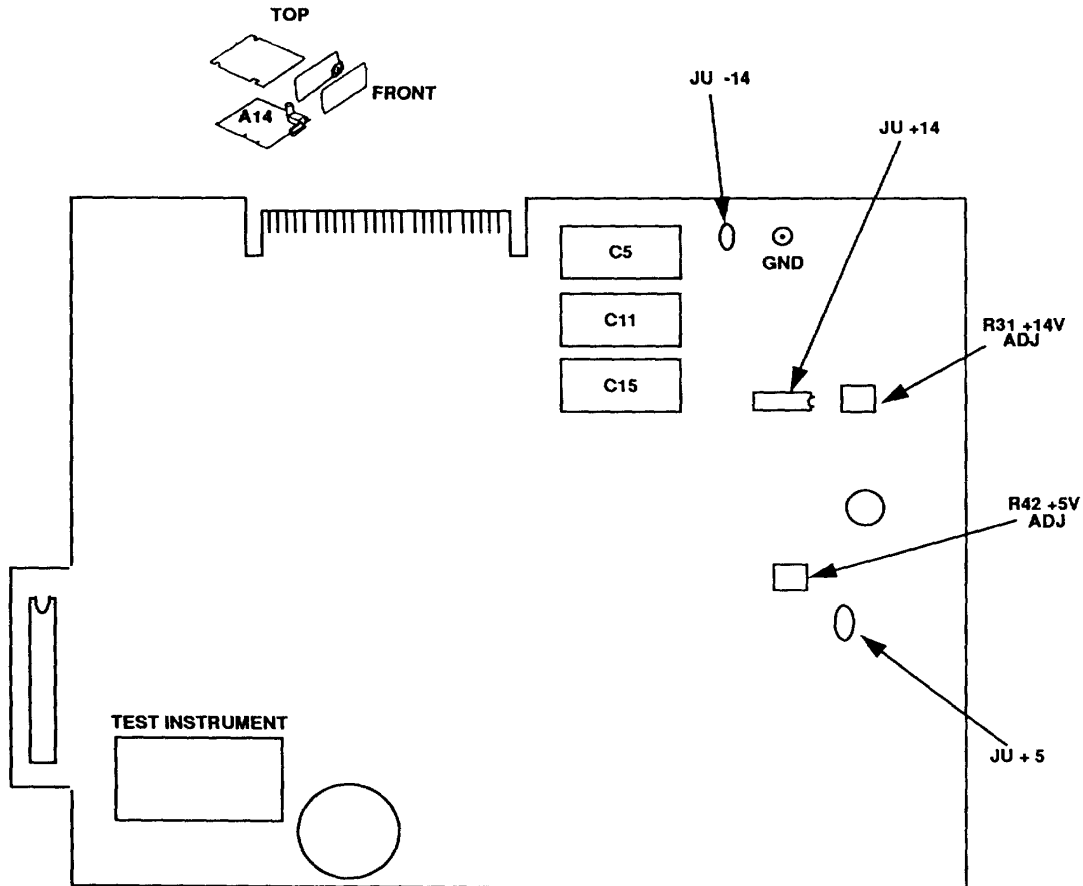

Figure 4. Transmitter A14 board - component locations.
(1) Connect multimeter **Input HI** to JU+5 (fig. 4) and **LO** to ground. If multimeter does not indicate between 4.8 and 5.2 V dc, perform **b(l)** below.
(2) Connect multimeter **Input HI** to JU+14 (fig. 4). If multimeter does not indicate between 13.8 and 14.2 V dc, perform **b(2)** below.
(3) Connect multimeter **Input LO** to JU-14 (fig. 4) and **HI** to ground. Multimeter will indicate between -13.75 and -14.25 V.
- (1) Adjust R42 +5V ADJ (fig. 4) for a +5 V dc indication on multimeter.
- (2) Adjust R31 +14V ADJ (fig. 4) for a +14 V dc indication on multimeter.